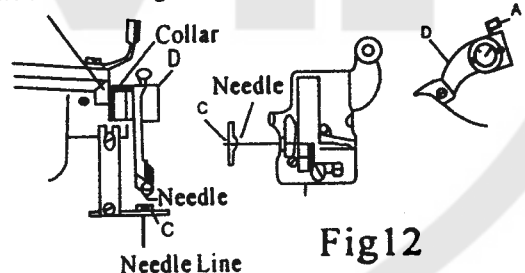

Fig12
Tighten two presser foot bracket holding screws (H). Furthermore, When the above adjustment is over, tighten clamp screw (A) (Fig 12)